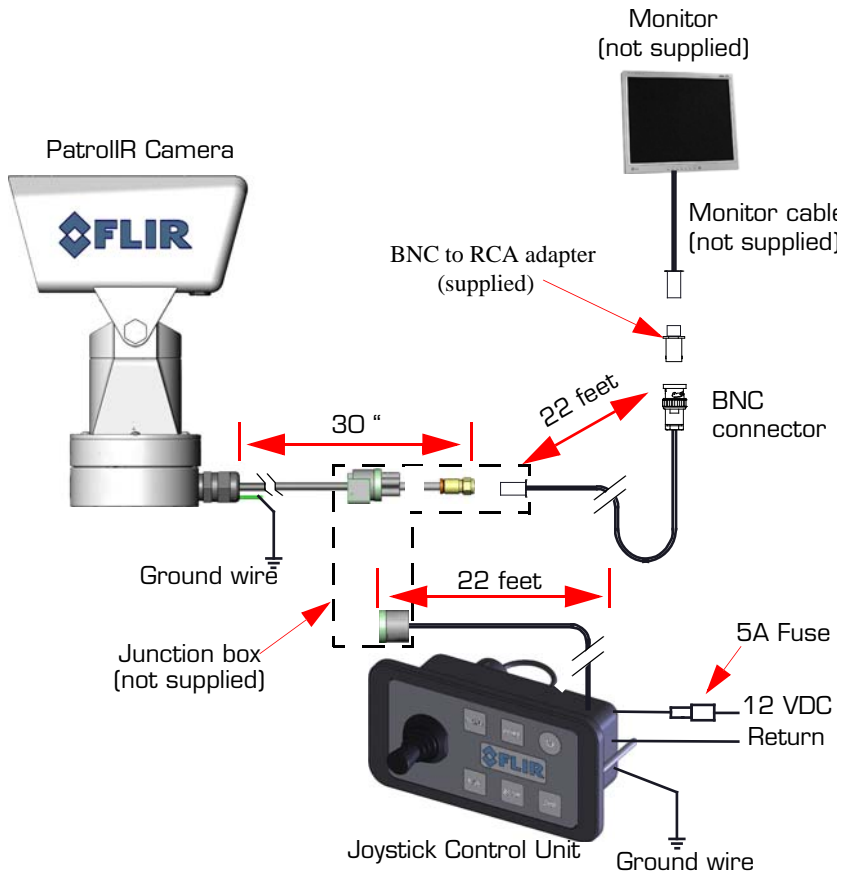

Figure 3-1: PatrollIR B Pan and Tilt
Step 5 Route the 22' JCU cable from the cable splice connector to the Joystick Control Unit mounting location and the 22' video cable from the video cable splice connector to the monitor. See Figure 3-1 for a schematic representation of the cabling connections.